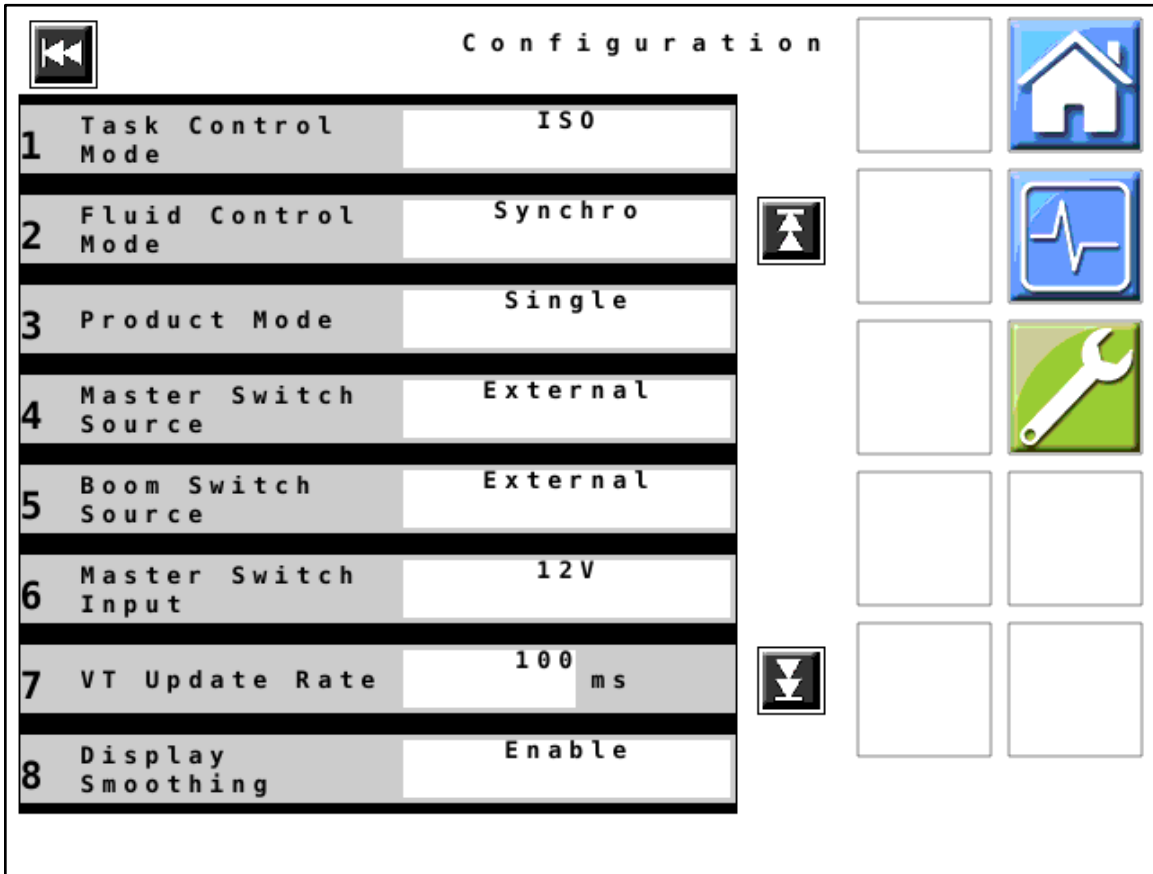

Figure 6 — Configurations Page 1
Note: ANYTIME you change settings, you MUST tap the **Settings** icon  to go into the **Settings** menu and select **Initial Setup > Configurations > Software Restart** to save settings. If the unit is turned off or loses battery power before this is done, the new settings will not be saved. Refer to *Figure 6* for the location of this function.
12. *Figure 6*: verify that all values displayed on your unit match those shown here. Change values if necessary.